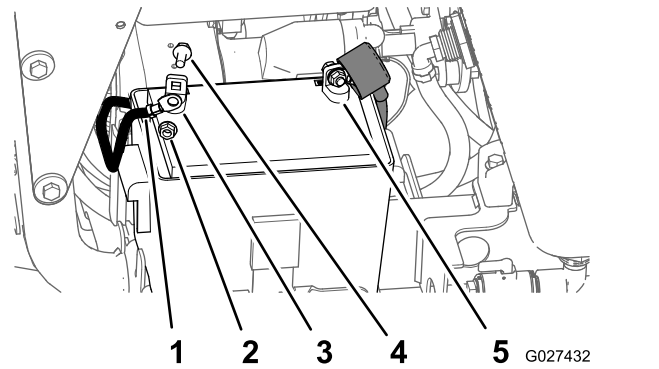

Figure 76
3. Remove the hex-flanged bolt and flanged nut from the negative-battery cable and negative (-) battery terminal, and remove the cable from the battery (Figure 76).
4. Slide the red-terminal cover off the positive-battery terminal (Figure 76).
5. Remove the hex-flanged bolt and flanged nut from the positive (red) battery cable and the positive (+) battery terminal, and remove the cable from the battery (Figure 76).
3. Install the positive (red) battery cable to positive (+) battery terminal with a flanged bolt and flanged nut (Figure 76).
5. Install the negative battery cable to the negative (-) battery terminal with a flanged bolt and flanged nut (Figure 76).